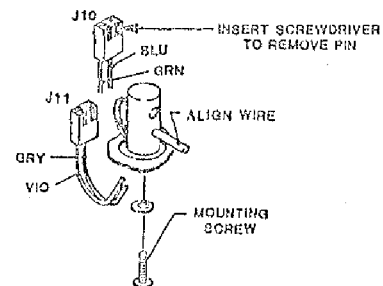

Figure 5-24.
5.3.29 TAPE-IN-CHANNEL EMITTER AND TAPE-IN-CHANNEL SENSOR ASSEMBLIES (Fig. 5-24)